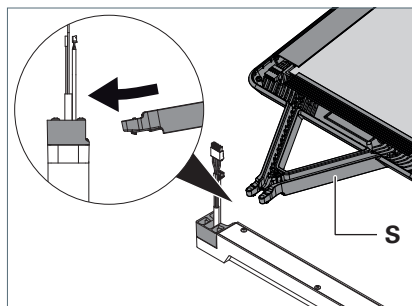

Fig. 12: Mounting the luminaire head.
1. Insert the supporting arm **S** of the luminaire head tilted downwards slightly into the adapter to the stop, see Fig. 12.